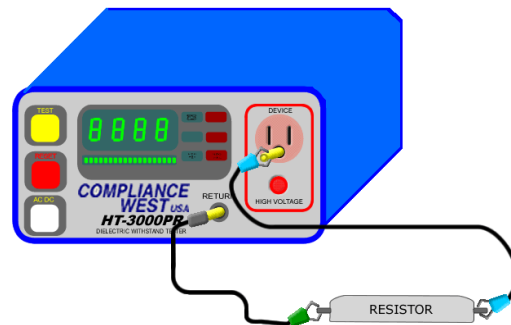

Figure 9. External Resistor Connected to the Ground Continuity Test Circuit
10. Connect an external resistor on the range of 0.1Ω to 1.5Ω using the leads mention on steps 5 and 6. See figure 9.